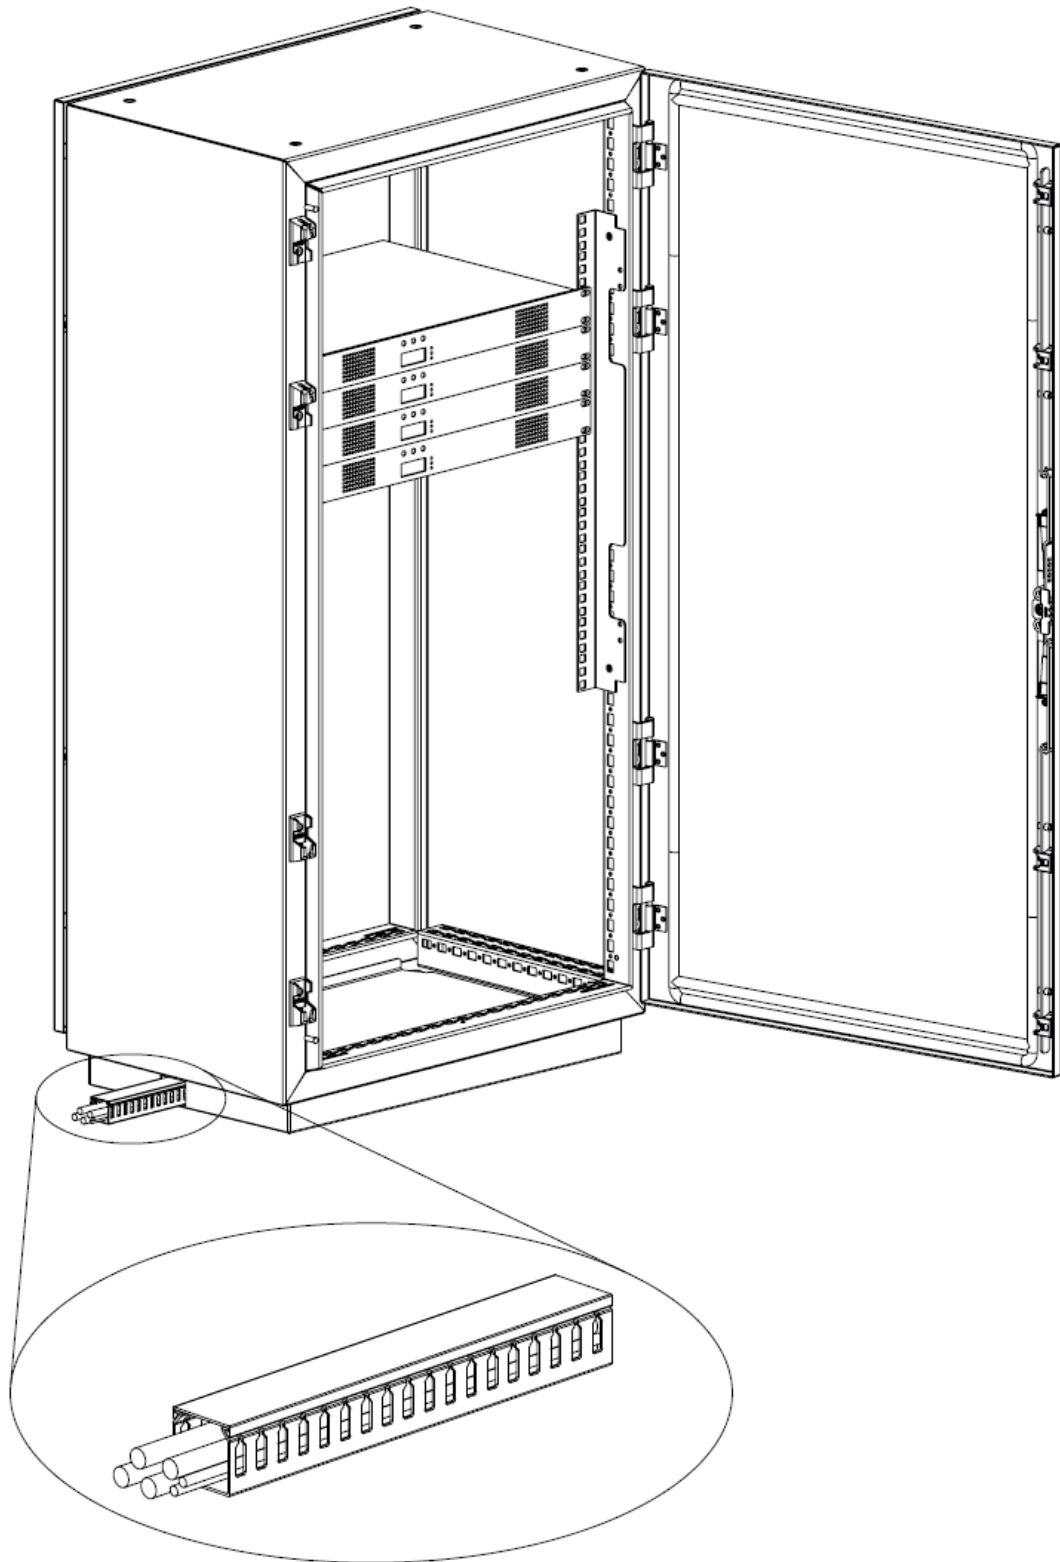

Figure 3.3 Using cable trunks
Inside the 19" rack unit, ground the LED wires as depicted in Figure 3.3 by leading them through an earthing clamp (2) that is attached to a C-rail (1). Ground the LED wires a second time as close to the LED load as possible.
Cable trunks as depicted in Figure 3.3 will facilitate leading the wires over longer distances inside the building.